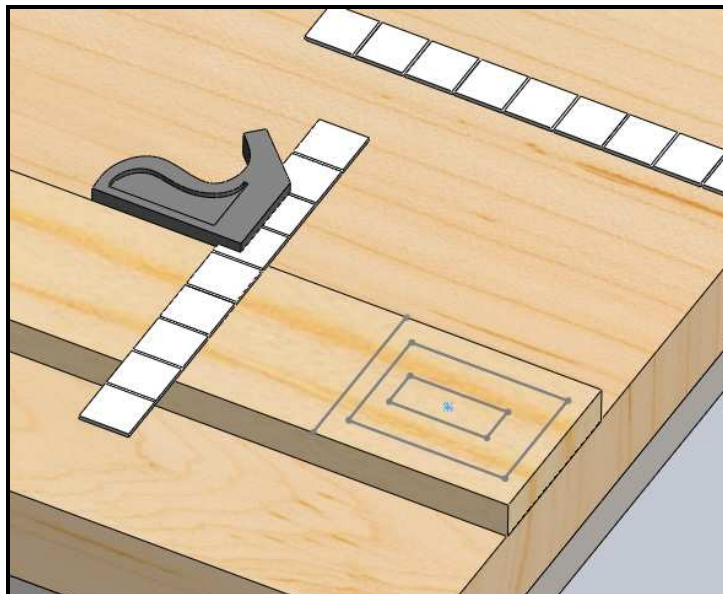

Figure 7: Layout of Piece 2 on the stock lumber. Mark the center of the inside square
Step 5: Lay out **Piece 2** using the **Combination Square**, **Straight Edge**, **Pencil**, and the dimensions found in **Drawing 2: Complete Dimensions Piece 2** (page 4) on the 100 mm section layed out on the 1" x 4" lumber Stock as shown in Figure 7.
Step 6: Locate and mark the center of the inside cutout of **Piece 2** with the **Straight Edge**, and a **Pencil** as shown in Figure 7.